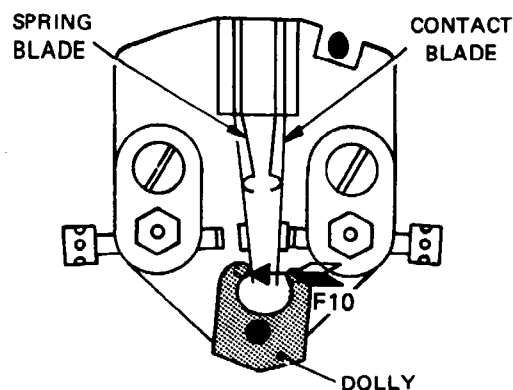

Fig. 4.64 MARK/SPACE CONTACT BLOCK
73.1 Set the dolly to one side to close the right-hand contacts as shown in Fig. 4.64. Observing the contacts under good lighting check that the force necessary to open the contacts without the aid of the dolly is 100–120 grams.
74.1 Apply a gram gauge to the contact blade at F10, Fig. 4.64, and check that the force required to set the dolly in the other position is 150–200 grams.